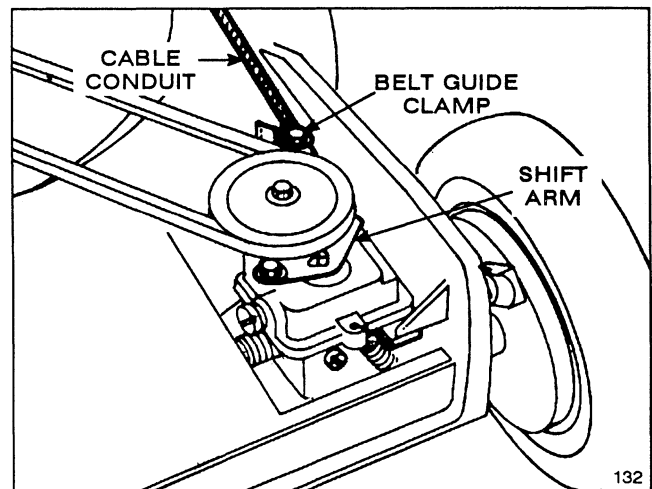

Figure 17
3. ADJUSTMENT (Fig. 17)—Loosen belt guide clamp until cable conduit slides. Move handle-mounted wheel drive control to **DISENGAGE** detent. Move shift arm toward clamp and hold in place. Pull cable conduit to remove slack and tighten belt guide clamp.